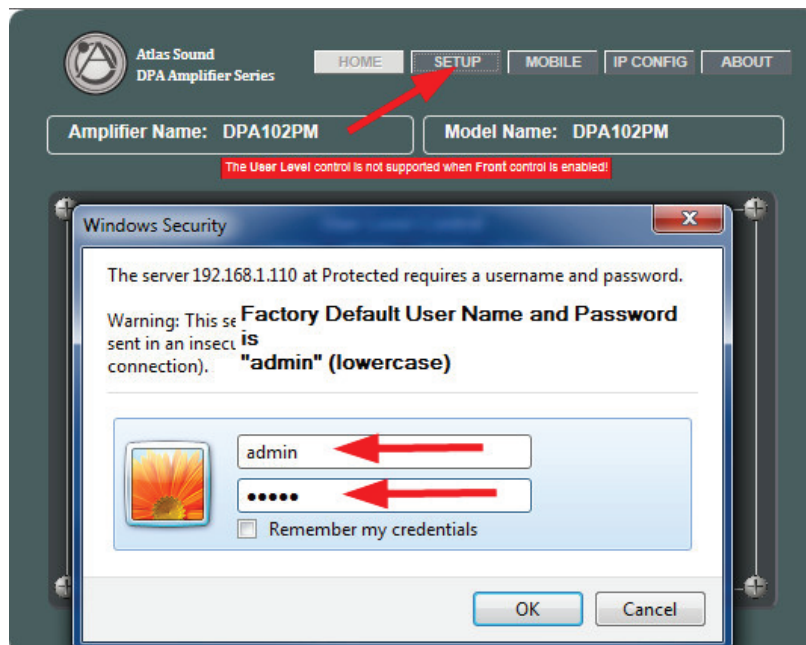

Figure 7
4. To access the full command of the DPA GUI, click on the Setup tab and enter the user name and password. This is shown in Figure 7.